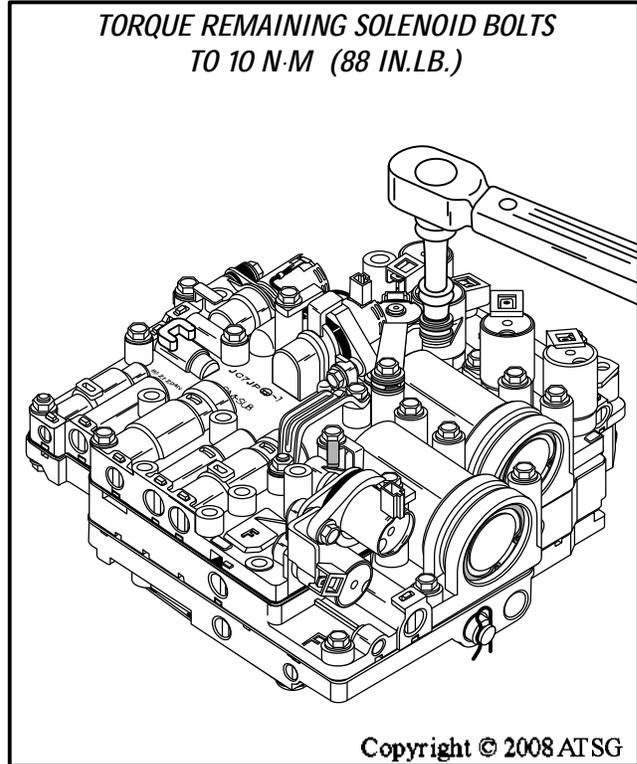

Figure 184
74. Now, you can torque the remaining solenoid retaining bolts to 10 N·m (90 in.lb.), as shown in Figure 184.